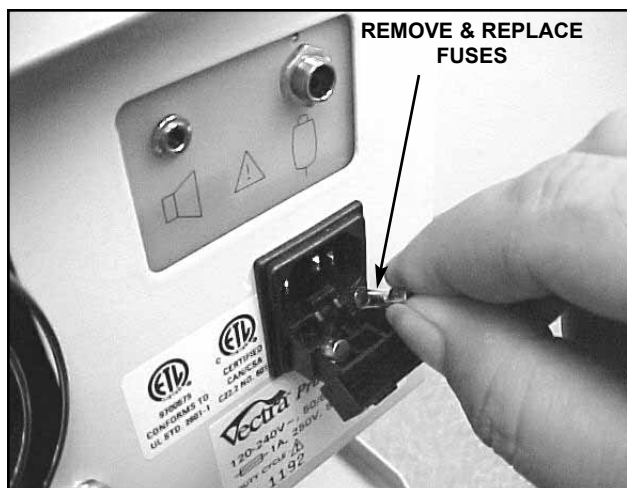

FIGURE 6.2
- C. Pull fuses from housing and replace with new fuses, Part Number 72103 (two required). See Figure 6.2.